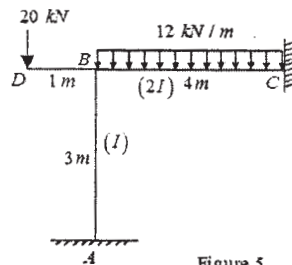

Figure 5
- Q4)** Analyse the frame shown in Figure 5 using finite element method and draw bending moment diagram. [18]